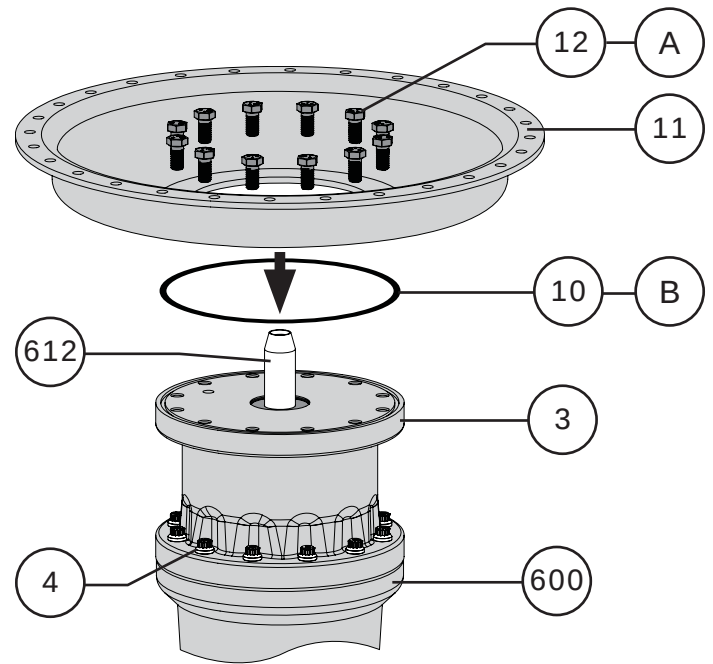

Figure 98 Lower Diaphragm Casing Installation
- 18 Apply Dow Corning Molykote® (Key B) to the casing o-ring (Key 10) and install it in to the groove on top of the spring case adapter (Key 3). Refer to Figure 98.
- 19 Set the lower diaphragm casing (Key 11) on top of the spring case adapter (Key 3). Apply Permatex® Nickel Anti-Seize (Key A) to the threads of the cap screws (Key 12) and install them through the lower diaphragm casing and into the spring case adapter. Tighten the cap screws to the torque specification listed in Table 4. Refer to Figure 98.